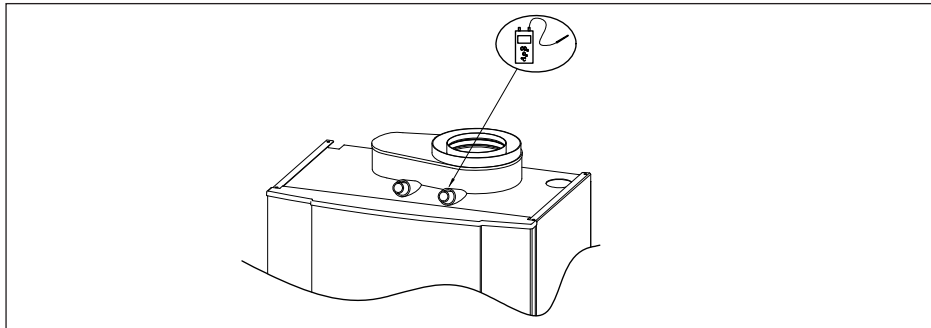

Fig. 19 Flue gas measure point.
14. Connect flue gas analyser to test point (*see Fig. 19*)